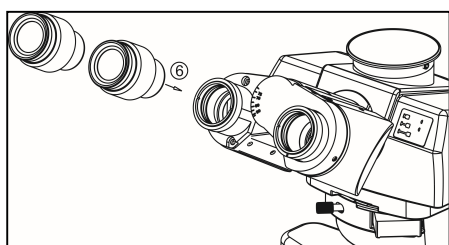

Figure 25
4-2-5 Install the eyepiece (Figure 25)
Insert the eyepiece into the eyepiece tube of the observation head according to the path of No. ⑥ in Figure 25 until it touches the surface.